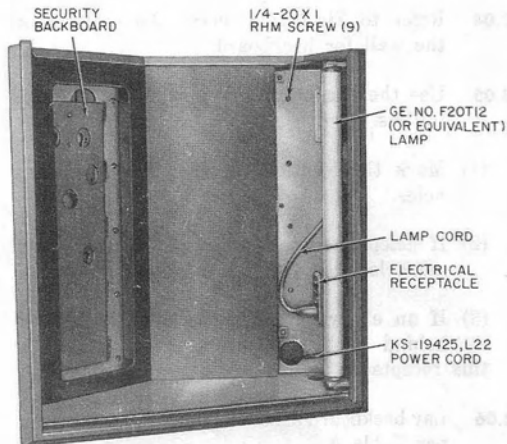

Fig. 5—Partial View of KS-21571 Shelf with KS-20194, L21 Light Fixture
- KS-20194, List 21 fluorescent light fixture (Fig. 5)*
2.03 When the light fixture is present, an electrical receptacle is provided in the lower portion of each shelf housing behind the diffuser (Fig. 5). The lamp cord, and if applicable, the adjacent shelf cord is plugged into the receptacle. From this receptacle box there is a 5-foot plug-ended electrical cord (KS-19425, List 22) for plugging into a power socket.